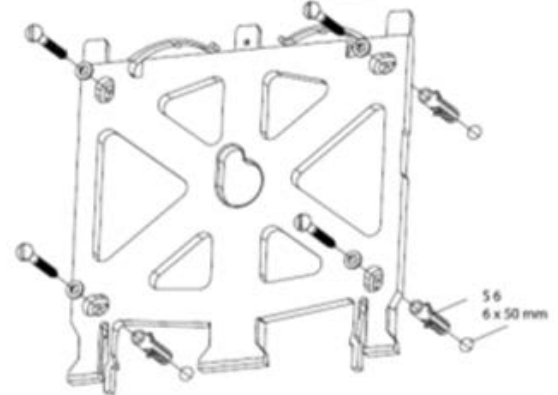

Figure 7B Mounting the Wall Bracket
1. Use the wall bracket as a drilling template to mark the positions of 4 drill holes. (Figure 7B)